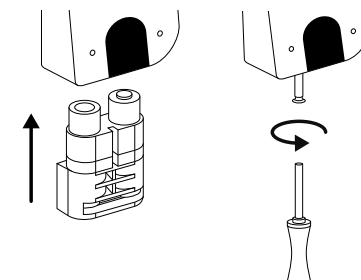

Fig. 112
- 5 Insert the battery compartment back into the housing and screw it tight (Fig. 112).